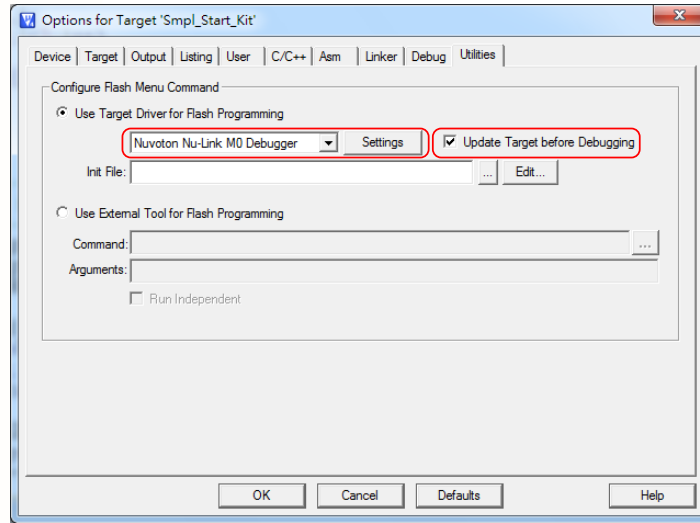

Figure 4-12 Keil RVMDK Programmer Selection
Step 6: 点击: **Project** → **Options for Target** → **Utilities**, 选中 **Use Target Driver for Flash Programming** 选项, 然后选择 “Nuvoton Nu-Link M0 Debugger”, 再勾选上 **Update Target before Debugging** 选项。参见 Figure 4-12.